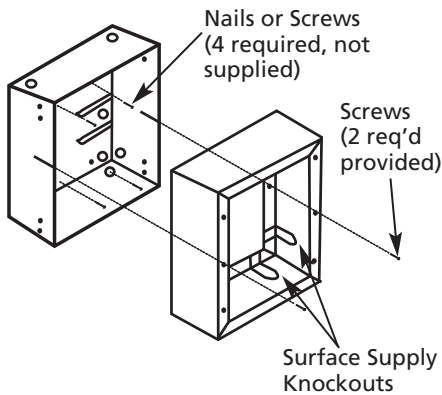

Figure 3
- If power supply is provided from inside wall, remove knockout in back of box, install cable clamp leaving at least 8 inches (203 mm) of cable inside back box. Secure back box to building structure using (4) holes in back box. (See Figure 3).
NOTE: In order to match up with clearance knockouts in surface frame, the knockouts located in corner next to the knockout in back of box must be used. (See Figure 3).
- If supply is by surface system, remove the clearance knockout in surface frame so frame will slide over supply. (See Figure 3).